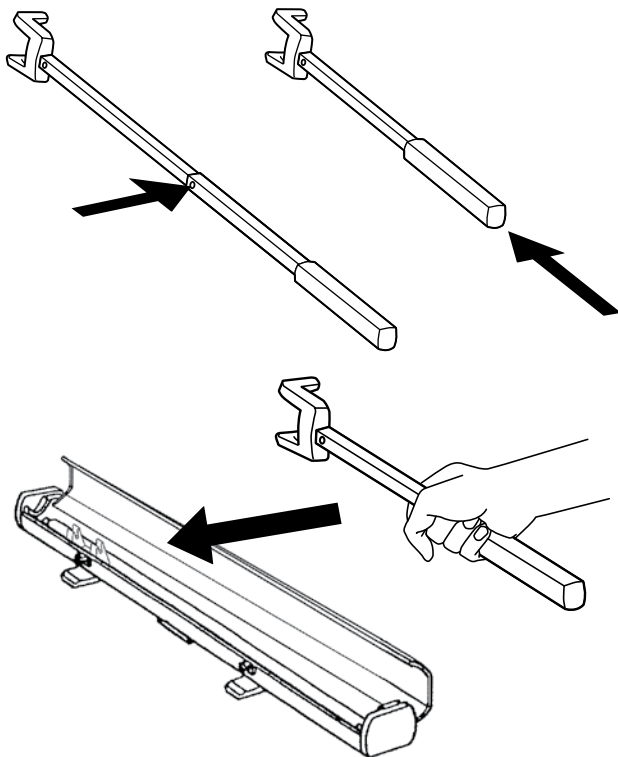

Figure 7
3. **On 90" and 100" models only** Collapse the extending handle by pressing on the button as shown and sliding the two halves together. Store extending handle in case (Figure 7).